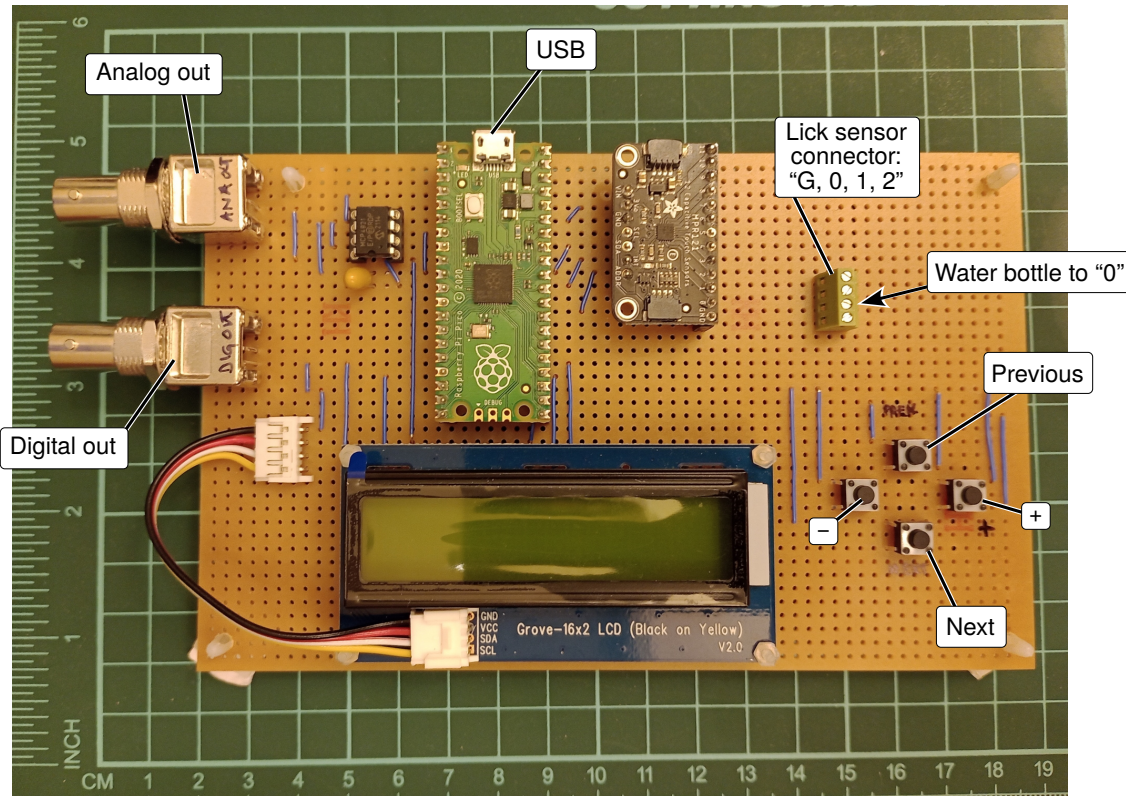

Figure 1. Overview of the lick-sensing device.
1. Use a cable to connect input "0" (second from left to right on the "Lick sensor connector", see Fig. 1) to the (metal) spout of a drinking bottle (Fig. 2A).
Figure 2. (A) A cable connecting the spout of the drinking bottle to the lick sensor is all the wiring required at the animal's end. (B) The output of the lick sensor ("Digital out" in Fig. 1) is a series of voltage steps, each indicating a lick event. (C) Optionally, shielding the spout of the drinking bottle may help reduce false positives that arise when animals hold the spout while drinking. To do this, surround the spout with a piece of conductive material (e.g. foil) and connect this to ground ("G") on the Lick sensor connector. Use heat shrink or similar to ensure that the foil (ground) and the spout (sensor) do not touch each other. The tip of the spout should be clear of the foil shielding. (D) Keeping ground and signal cables separate, connect these to the lick sensor.